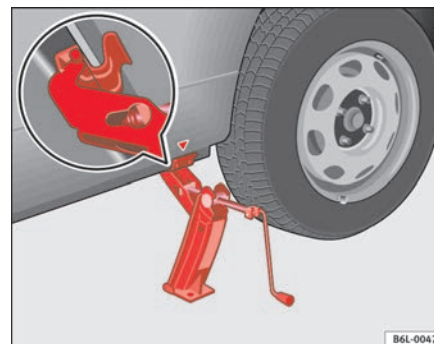

Fig. 138 Fitting the jack
- Align the jack so that the arm of the jack fits around the rib under the door sill and the movable base plate of the jack is flat on the ground ⇒ fig. 138.